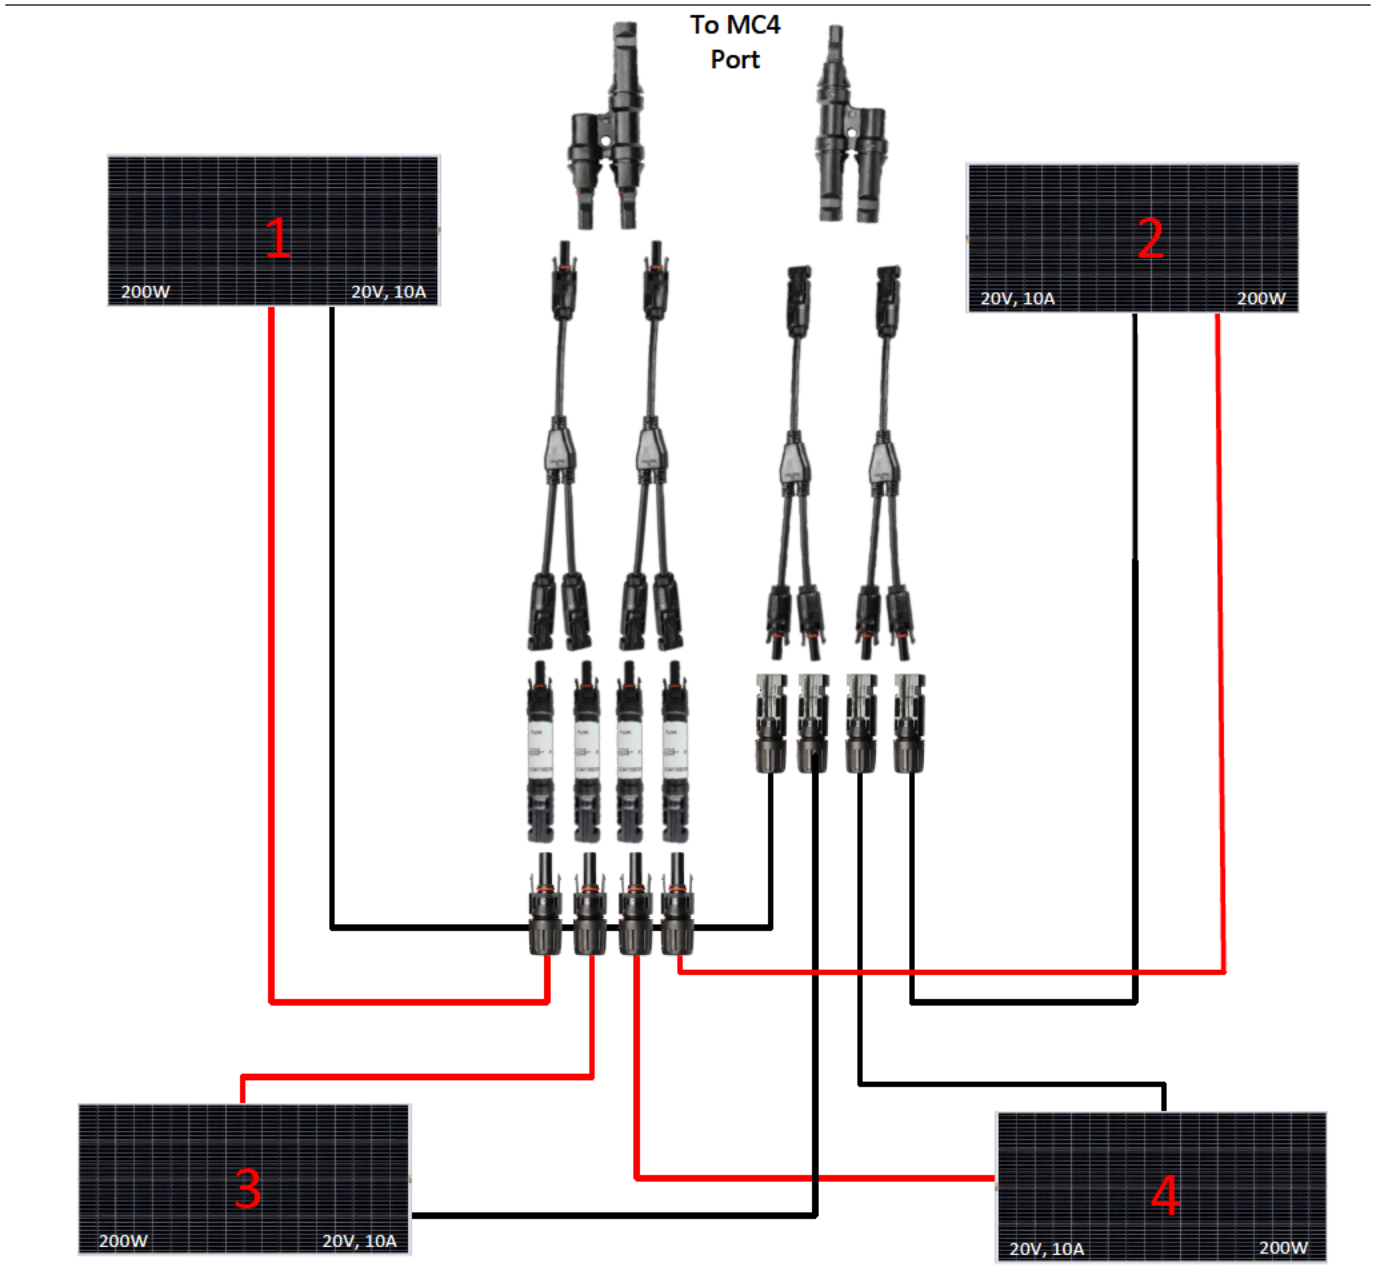

Figure 11
11. Begin wiring panels together per attached diagrams (Existing wiring diagram-Figure 11, Page 11, NEW wiring diagram-Figure 12, Page 12). Install extension (56" - P/N 113021 for floor plan 3250, 24" - P/N 104366 for all other floor plans) (Figure 10).
12. Existing wiring combines (4) 200W solar panels in Parallel (Figure 11).